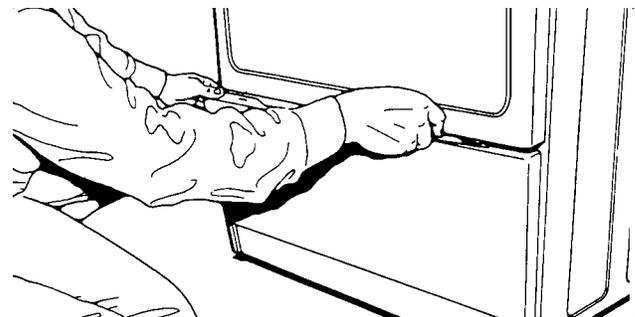

Fig. 19
1. Using a blade screwdriver, locate and release the two toe panel clips, approximately 4" in from each side. (Fig. 19)